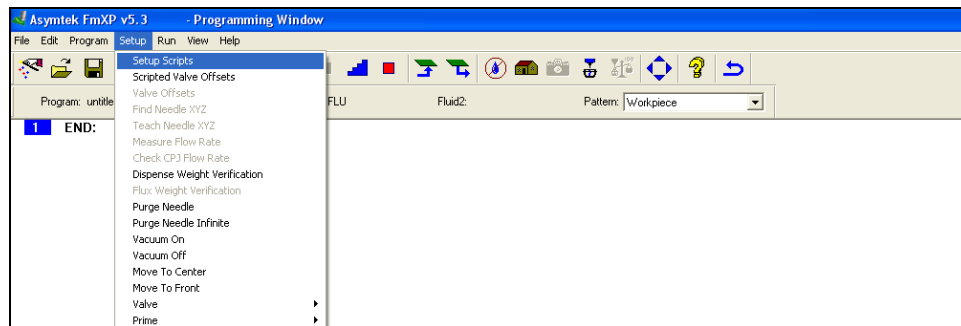

Figure 2-10 Fluidmove Programming Window - Setup Scripts
- ▶ The Fluidmove Programming Window opens (Figure 2-10).